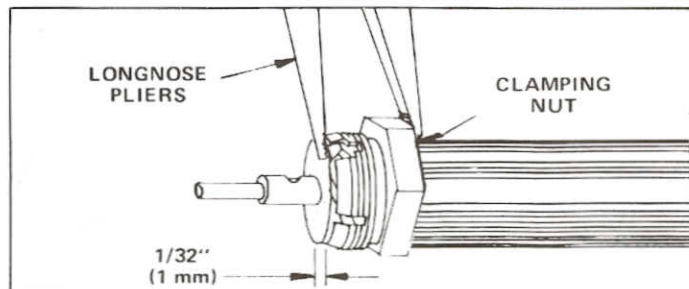

FIGURE 3
**STEP 3.** Cover foam at end of cable with silicone grease to seal pores. Also apply grease to outer conductor covering approximately 1 in. (25 mm) at end. Screw clamping nut onto cable until outer conductor is exposed per dimension in Figure 3. Use longnose pliers to crimp outer conductor into opening in clamping nut. Apply thin coating of silicone grease to threaded area of clamping nut.